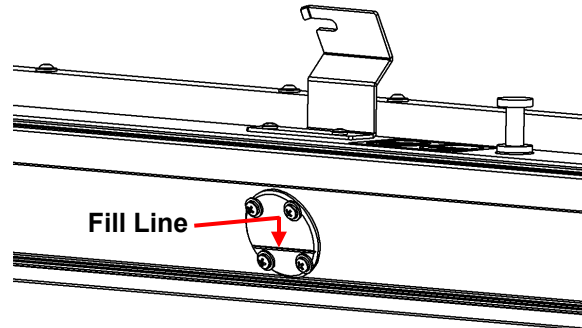

Figure 3-16
4. SLOWLY pour oil into the tank until the oil level in the oil level indicator, as shown in Figure 3-16, is at the mark. DO NOT OVERFILL!